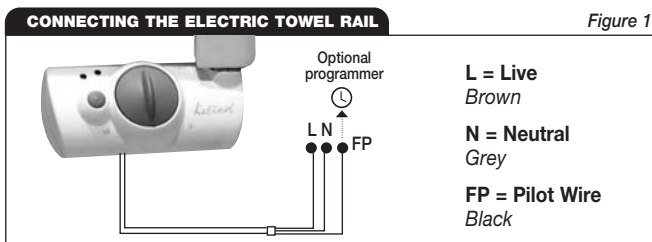

Figure 1
Colour code: (see figure 1) BROWN connected to live / GREY Connected to neutral
- 1- The minimal distances given in figure 1 must be respected